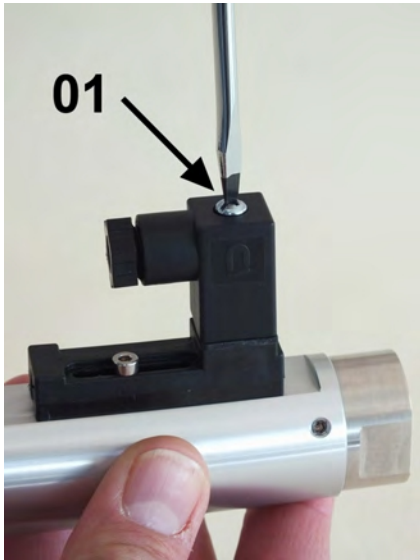

Fig. 20: Detach socket
1. ➤ Release the fixing screw (Fig. 20/01) from the socket.
9. ➔ Plug the socket onto the connector plug and tighten the fixing screw (Fig. 20/01)